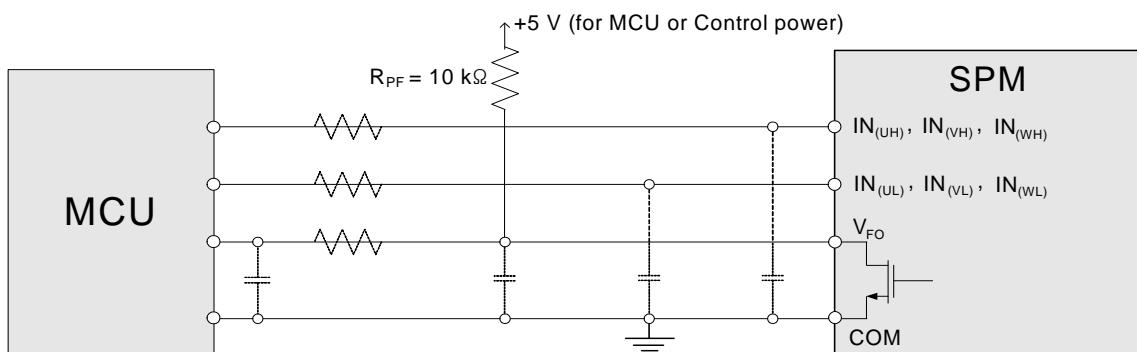

Figure 14. Recommended MCU I/O Interface Circuit
- 3)  $V_{FO}$  output is open-drain type. This signal line should be pulled up to the positive side of the MCU or control power supply with a resistor that makes  $I_{FO}$  up to 1 mA (please refer to Figure 14).